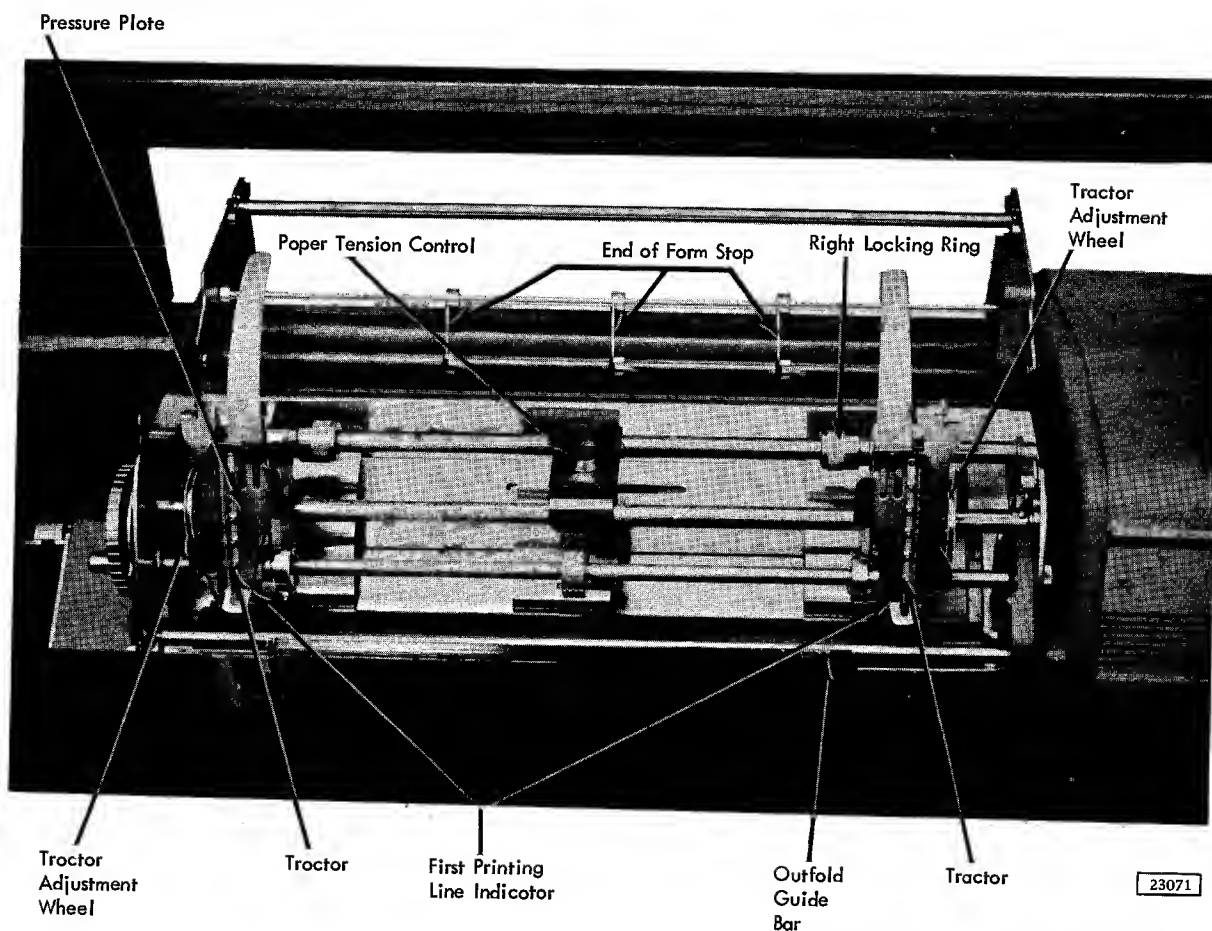

Figure 15. Front of Carriage
2. If the form is less than 7 inches wide, the center paper guide and paper-tension device can be removed (Figure 15). The paper tension device is adjustable and exerts a slight pressure on the paper as it feeds through the forms tractor.
The tractor adjustment wheels (Figure 15) can be turned to provide a 1/8 inch lateral movement of the tractors. These wheels make the tractor pins line up exactly with the center of the marginal holes in the paper after the paper guides have been set.